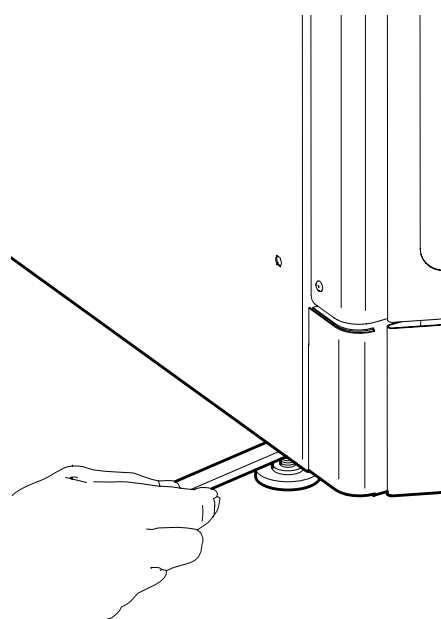

Fig. 4.3
- Position the distributor, checking the leveling by means of the adjustable feet already assembled on the machines (Fig.4.3). make sure that the distributor doesn't have an inclination of more than 2 degrees.